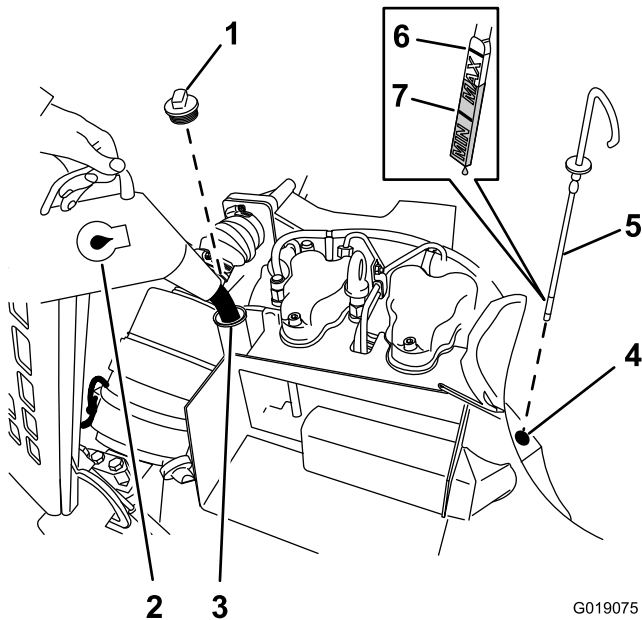

Figure 59
2. Slowly pour approximately 0.76 L (1.5 qt) of the specified oil in through the oil-filler neck (Figure 59).
- E. If the oil level is below the Min-level mark on the dipstick, slowly pour enough oil into the oil-fill tube to raise the level on the dipstick to between the Min- and Max-oil level (Figure 59).
- F. Install the oil filler cap in the filler neck (Figure 59).